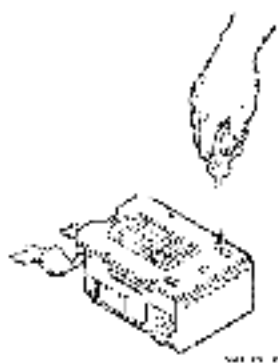

Figure 2-14 Drive Slot Plate
3. Use a small phillips screwdriver to remove the four screws that hold the drive skin plate to the drive (Figure 2-14). Remove the drive skin plate.
3. Use a Phillips screwdriver to remove the four screws that hold the drive skid plate to the drive (Figure 2-14). Then, remove the drive skid plate.